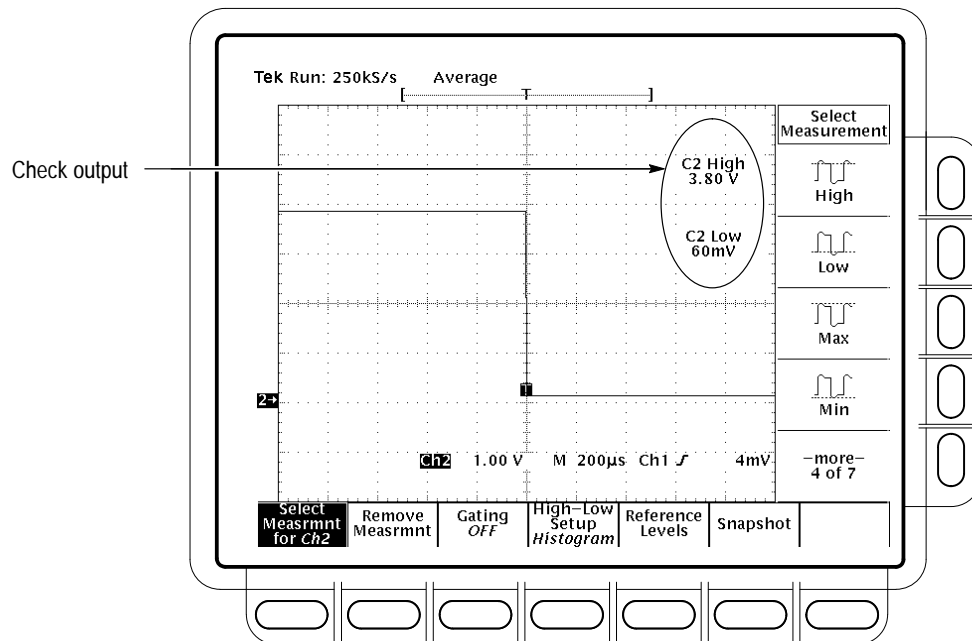

Figure 4-20: Measurement of Main Trigger Out Limits
d. *Check Delayed Trigger output against limits:* See Figure 4-20.